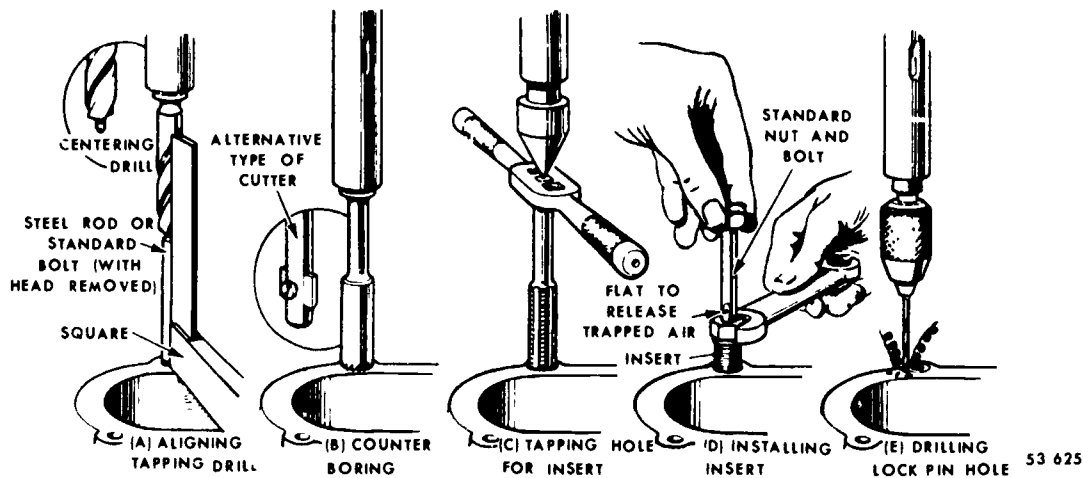

Figure 6-21. Method of installing a solid insert.
**Solid Insert Installation.** Installing a solid insert can be a simple task or a fairly complicated one, depending on the style of insert used. Figure 6-21 shows the procedure for installing a flanged solid insert. The depth of the counterbored hole is a critical dimension. If it is not deep enough, the flange of the insert will extend above the surface of the parent part, causing improper seating of the mating part. If this situation isn't noticed, it can even cause one of the parts to break when the parts are torqued together. It is best to have the top surface of the flange seated 0.0002 or 0.0003 inch below the surface of the parent metal. The insert in figure 6-21 is secured by a lockpin, which is usually made from a stainless-steel rod about 1/16 inch to 3/32 inch in diameter (or even larger in the case of very large inserts). Some of the larger inserts are secured with threaded lockpins.
No special tools are required to thread a solid insert into a prepared seat. Usually a bolt and a nut can be used, as shown in figure 6-21.